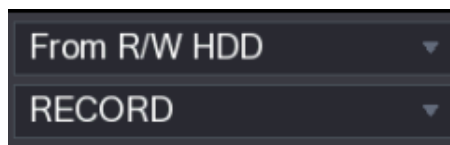

Figure 5-106
- **From R/W HDD:** Recorded videos or snapshots playback from HDD of the Device. See Figure 5-106.